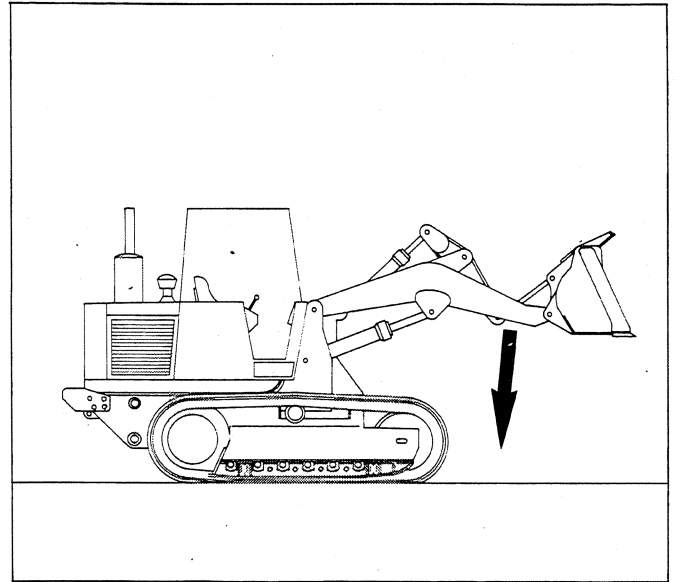

Fig. 7B
Shifting the lever into position (B) will make the boom lower (fig. 7B).